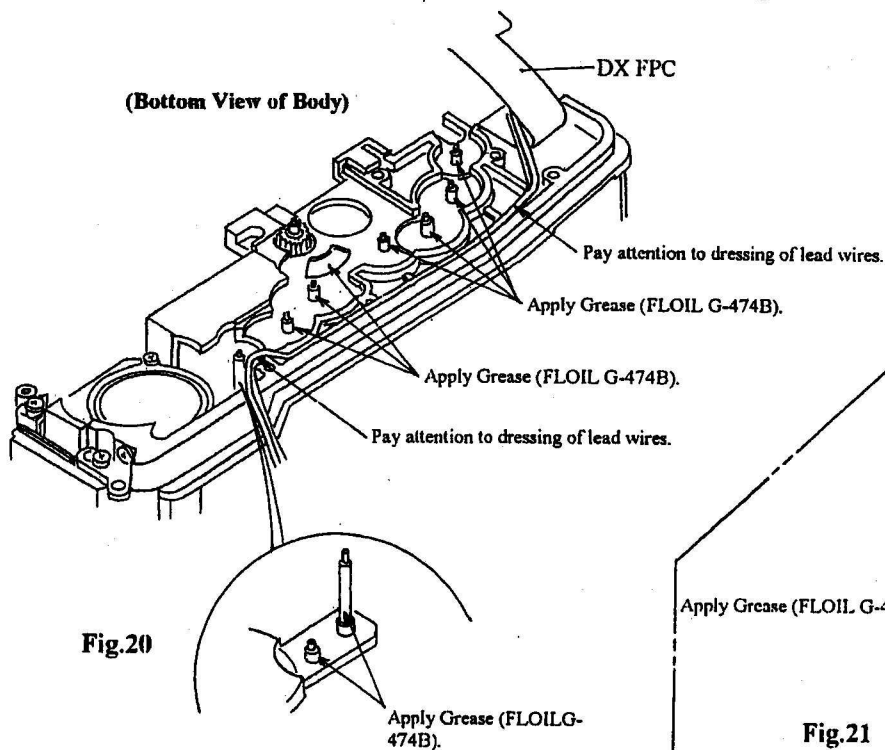

Fig.20
- Dress the Black and Red lead wires coming from the DX FPC as shown in Fig. 20 first and then install the Winding Base Plate Ass'y (1AWB1400).
- As shown in Fig. 20, apply the Grease (FLOIL G-474) to each gear shaft on the Body.